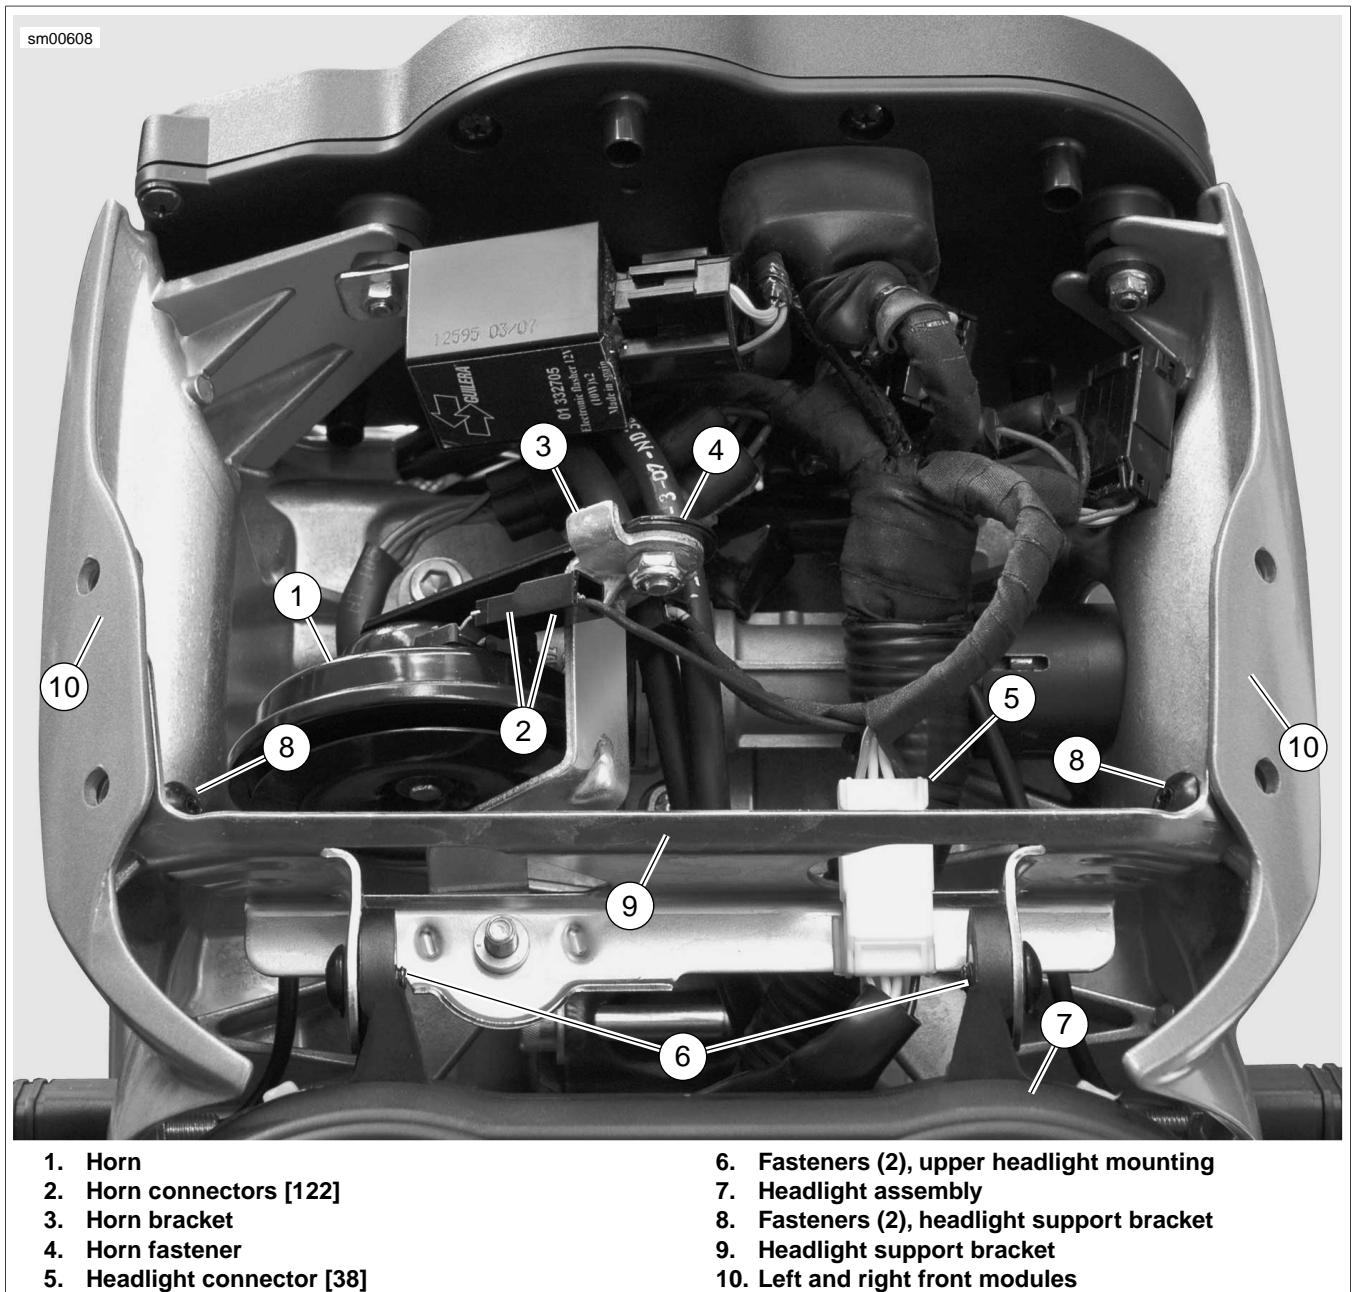

Figure 2-142. Electrical Connectors Behind Windscreen: Lightning
4. Disconnect horn connectors [122] (2).
- a. **For Lightning Models:** See Figure 2-142.
1. Install headlight support bracket (9).